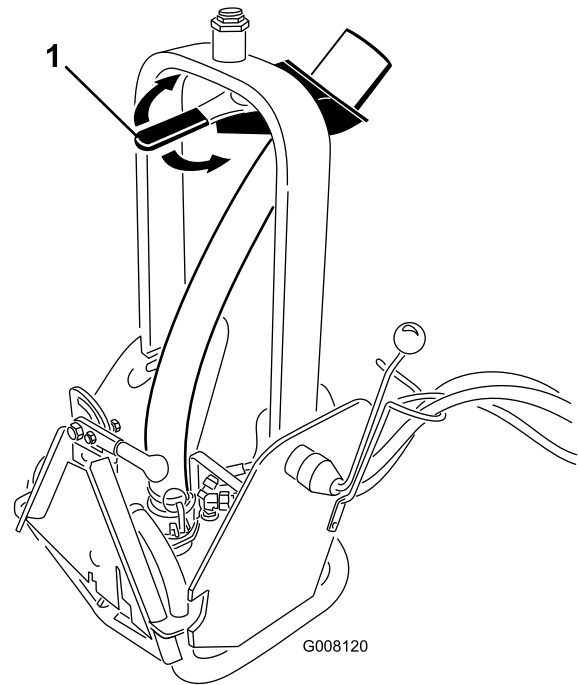

Figure 7
2. To adjust the flow direction, rotate the nozzle handle (Figure 7) to the desired position.
**Note:** The resistance on the handle nozzle (Figure 7) may be increased or decreased by